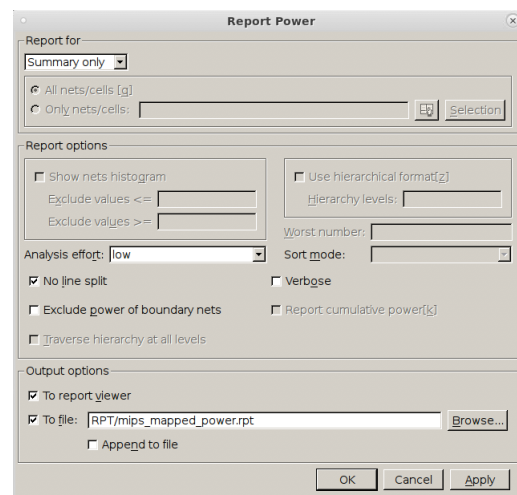

Figure 15: Reporting the power
2. Select the parameters as in Fig. 15.